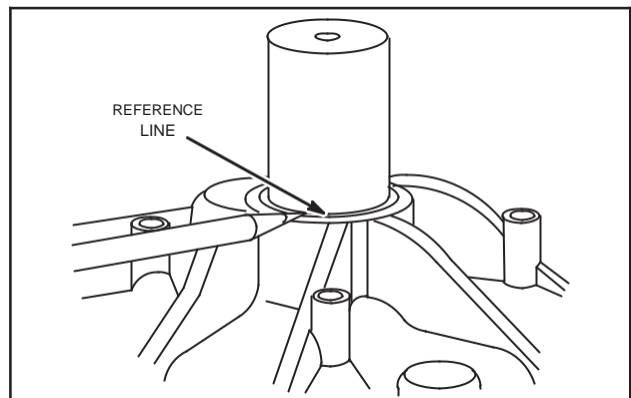

Fig. 6 – Remove Mag Bearing
1. Place cylinder on cylinder support, Tool #19227 with large opening facing DU bearing, Fig. 6.